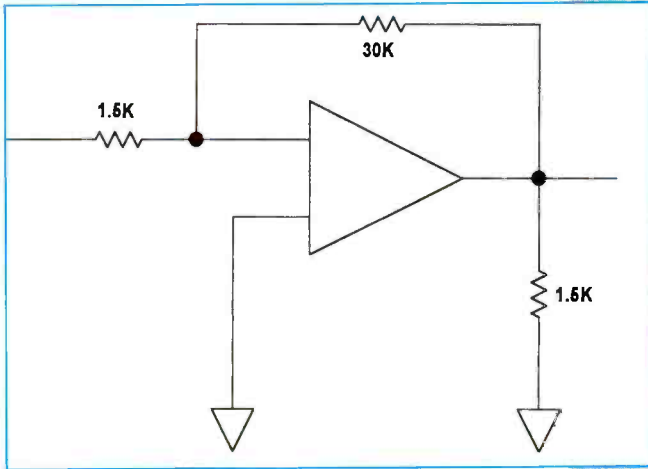

Figure 1. What is the gain of this op amp?
**Figure 1.** In all three of these Magnavox VCRs that were lightning damaged, and thought to be beyond economical repair, components in the power supply had been destroyed. This schematic diagram shows the locations of the components that I identified as destroyed, and replaced, to restore all three of the units to perfect operating condition.
Since the damage to all three units was similar, I'll use one of them to illustrate how the jobs went. See Figure 1.
As you can see by studying Figure 1, the power supply uses several values of resistors in the primary. Some are more likely to fail than others. I suggest you keep a healthy supply of the following values in stock: 1.5 $\Omega$ , 27 $\Omega$ , 1k $\Omega$ , and 56k $\Omega$ .
2. What is the gain of the op amp in Figure 1?
In doing research for this article, the staff visited several distributors' websites. There are a number of distributors listed in the **ES&T** March Annual Buyers' Guide issue. If you're interested in learning more about what kinds of aids are available to service technicians, we suggest having a look at a few of these sites, or ordering their catalogs. Figure 1 is a list of products made for making service work easier, faster, and more efficient. A glance at the list might make a technician or a service manager aware of the wealth of products that are available that can make service go faster. We found this list at the website of one manufacturer that offers such products, as well as repair and rework services.